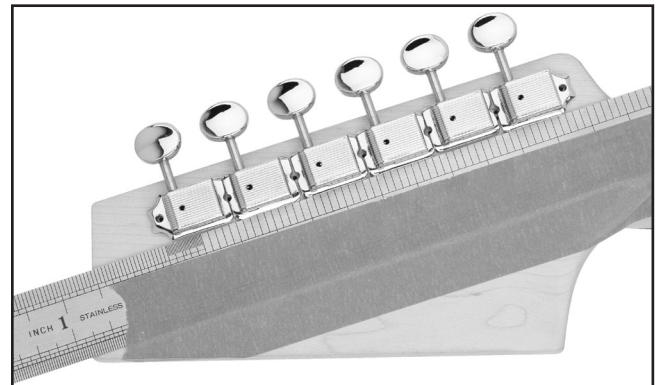

Figure 20. Tuners aligned.
2. Use a ruler to align the tuners so they are parallel to the edge of the headstock, and mark the mounting holes as shown in **Figure 20**.